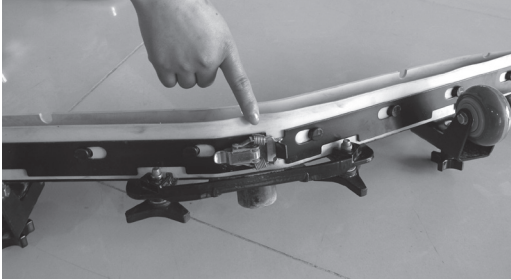

Figure 33
6. Check the abrasion at the edge of squeegee blade (Figure 33), if any, rotate its direction (refer to “Squeegee Blade Replacement” in page 32).